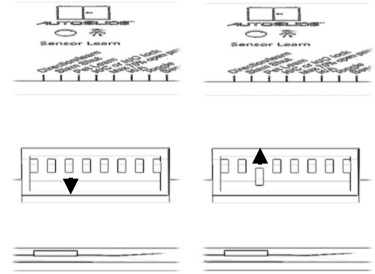

Figure 56: To program Pet width, flip DIP switch #3 on and off.
2. To start the pet programming process, flip DIP switch #3 **on** and back **off** like shown in Figure 56.